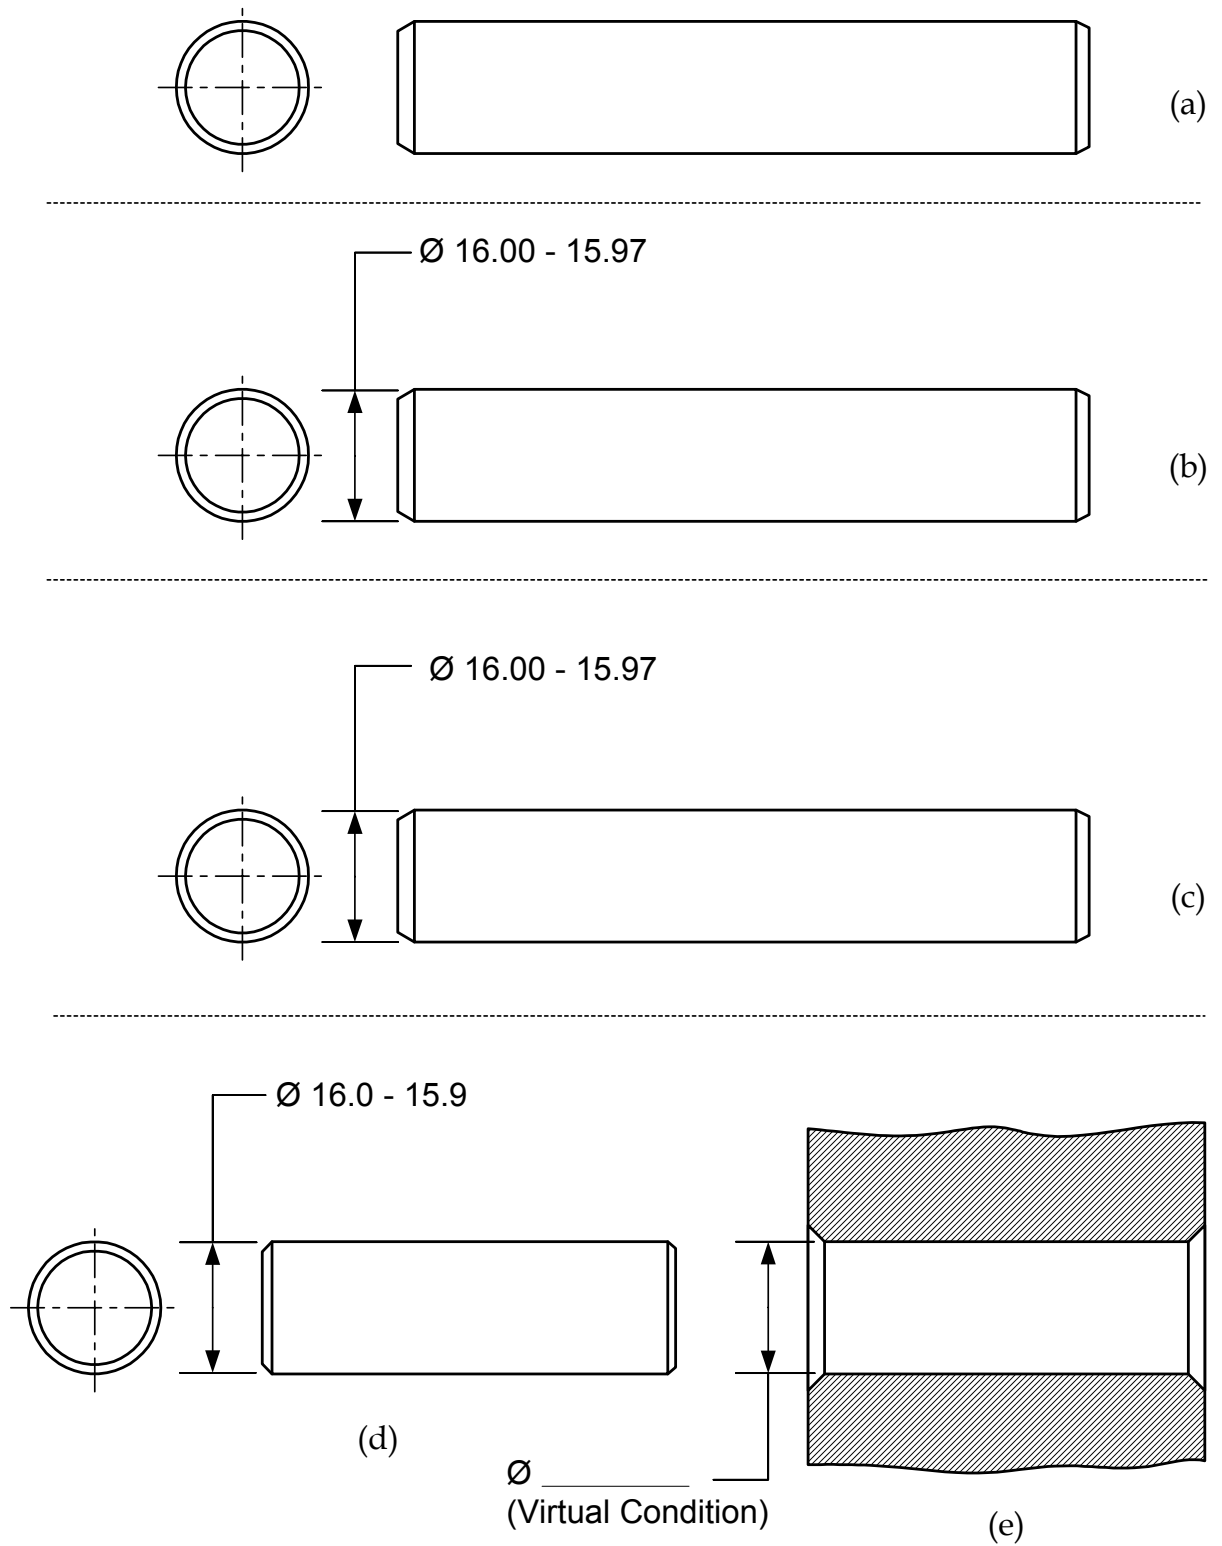

Figure 1
1. On Figure 1(a), indicate control of element straightness by use of Rule #1 so that maximum possible error is no more than mm if the feature maximum size is  $\varnothing 16\text{mm}$ .
2. On Figure 1(b), indicate an element straightness maximum of 0.012mm.
4. On Figure 1(c), indicate that axis straightness may violate Rule #1 and allow a total bend of up to 0.4mm.
5. On Figure 1(d), assume that the pin will assemble with the hole shown in 1 (e).